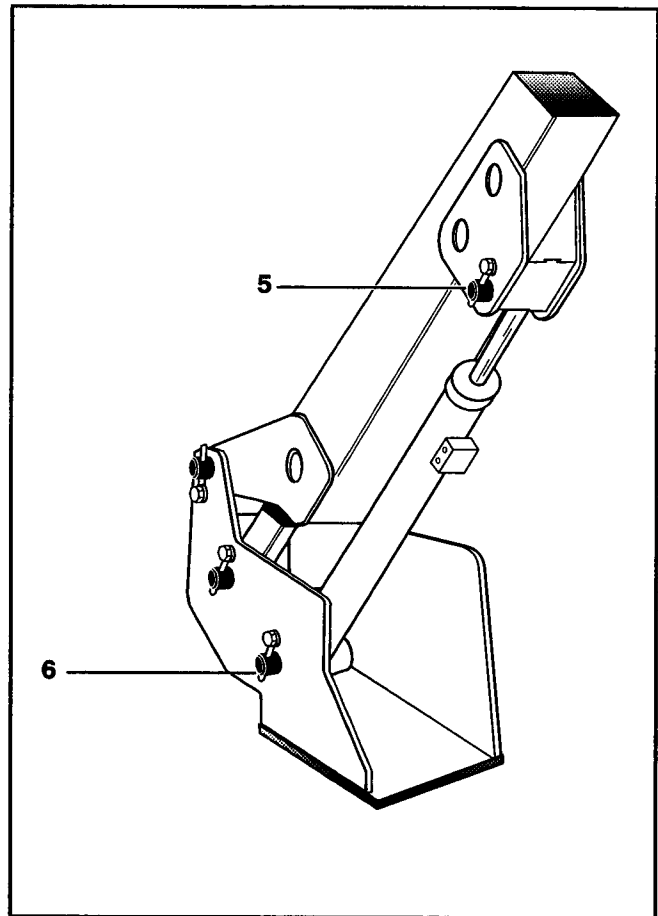

Figure 2-23. Lower Boom Lift Cylinder Removal.
• Lower Boom Lift Cylinder Removal. (See Figure 2-23.)